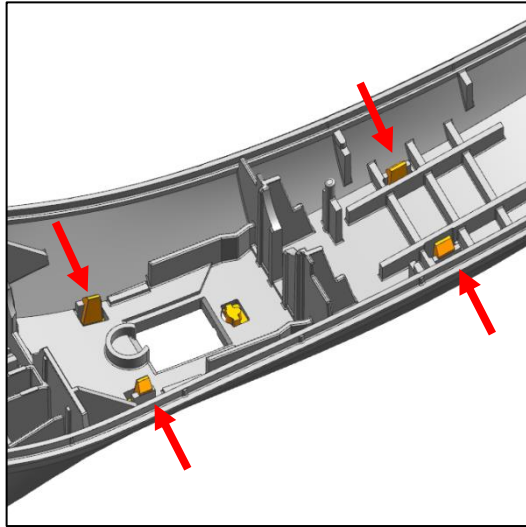
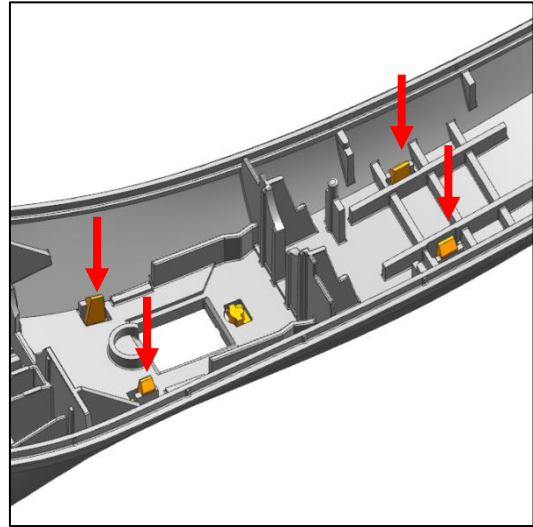

Fig. 13
Fig. 14
- a) Press the four middle snap-fit hooks on both sides of the cover inwards (Fig. 13). Then push the hooks downwards (Fig. 14).